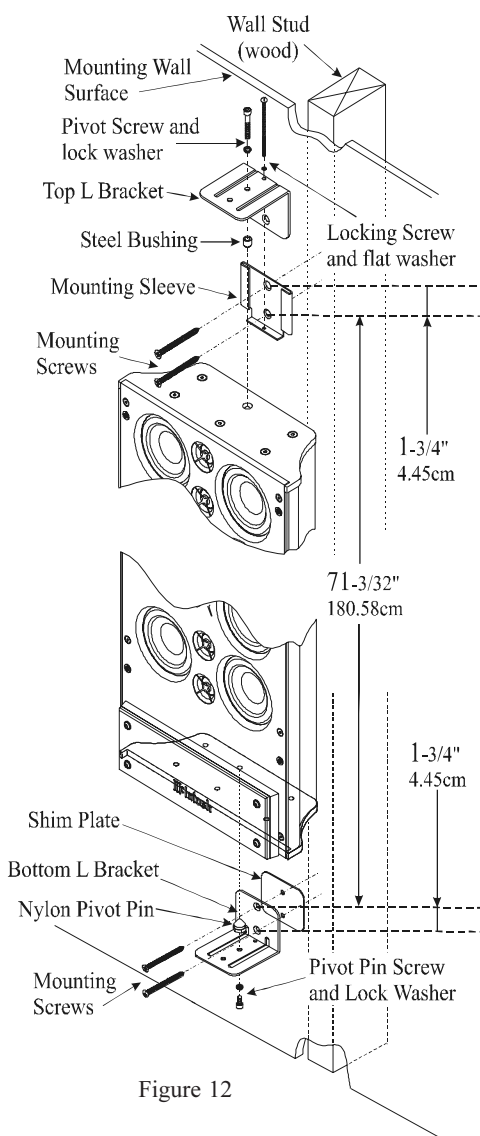

Figure 12
- Referring to figure 12, measure down from the just mounted L Bracket and install the Bottom L Bracket together with the Shim Plate, using the supplied Mounting Screws.